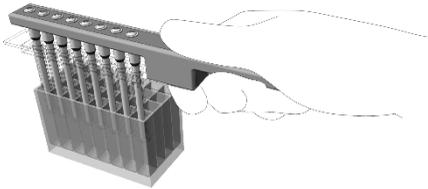

Figure 16. Collecting magnetic beads from **column 1**.
- Using the IndiMag Handheld with the rod cover, slowly mix 10 times up and down to collect the magnetic beads from **column 1** (Figure 16). Wait until all the beads have attached to the rod cover.